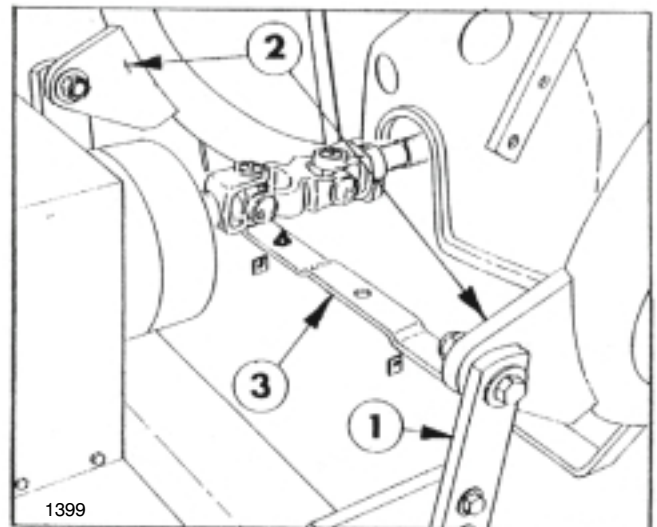

FIG. 3
7. Align Frames mounting mounting straps with the mounting lugs on the front of the Spreader. Secure the Spreader to the straps with two 5/8" x 2-1/2" bolts, eight washers and two hex nuts. See FIG. 3. Re-tighten mounting straps' fasteners.
11. Secure the cross member of the Spreader to the Mounting Frame with two 3/8" x 1" bolts, four washers, and lock nut. See FIG. 3.